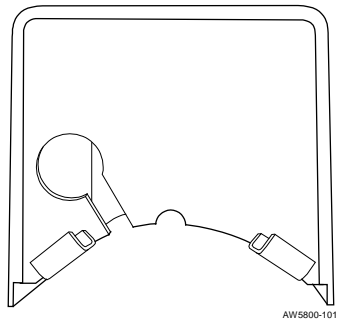

Figure 35. Cable Opening in Cover
- A. Locate the opening in the end of the cover. The opening is used for the sensor cable to go through. See Figure 35.